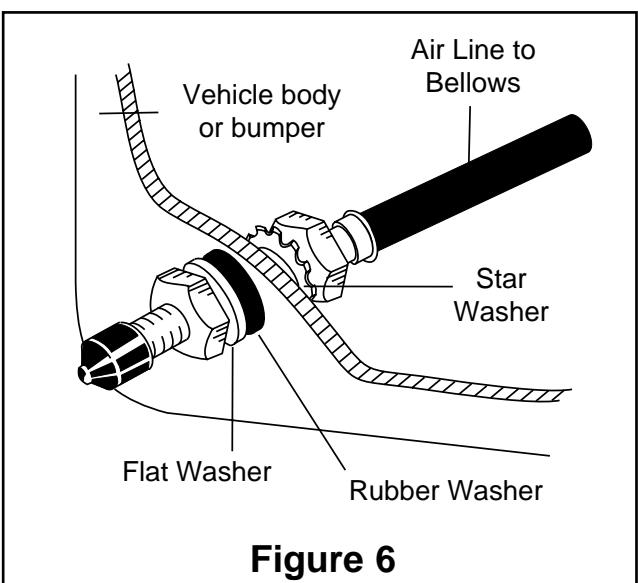

Figure 6
9. Cut the air line in two equal lengths. Use a standard tube cutter, a razor blade, or very sharp knife to cut the air line. A clean square cut will ensure against leaks. Drill 5/16" hole for inflation valve and mount as illustrated. Rubber washer on outside is for weather seal (Figure 6).